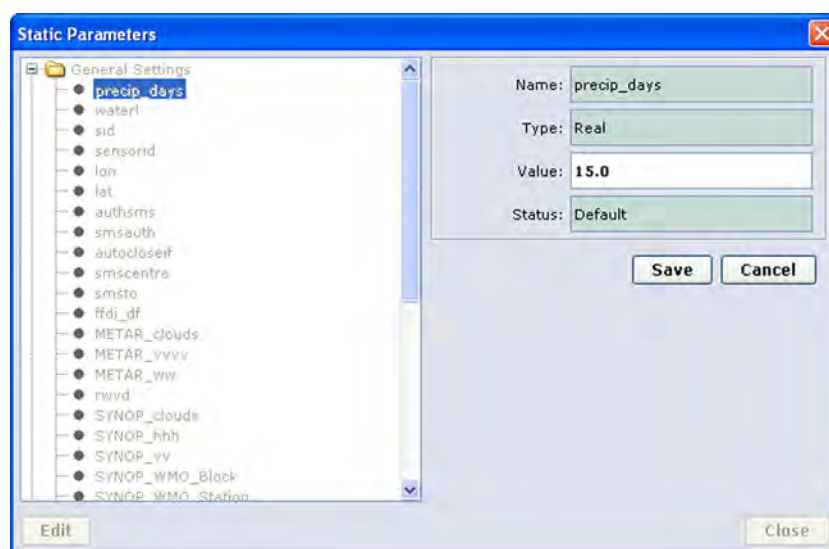

Figure 100 Static Parameters Window: Entering Accumulator Reset Value Manually
1. Start the AWS Client software, then select the **Settings** menu, then **Parameters** option, then the **Static** option. Alternatively, you can click on the **Set static parameters** icon in the Toolbar; see Figure 100 on page 198.
3. From the **General Settings** list, select the accumulator parameter; in Figure 100 on page 198, the accumulator is named **precip_days**, suggesting that it represents the accumulated precipitation in the rain gauge.